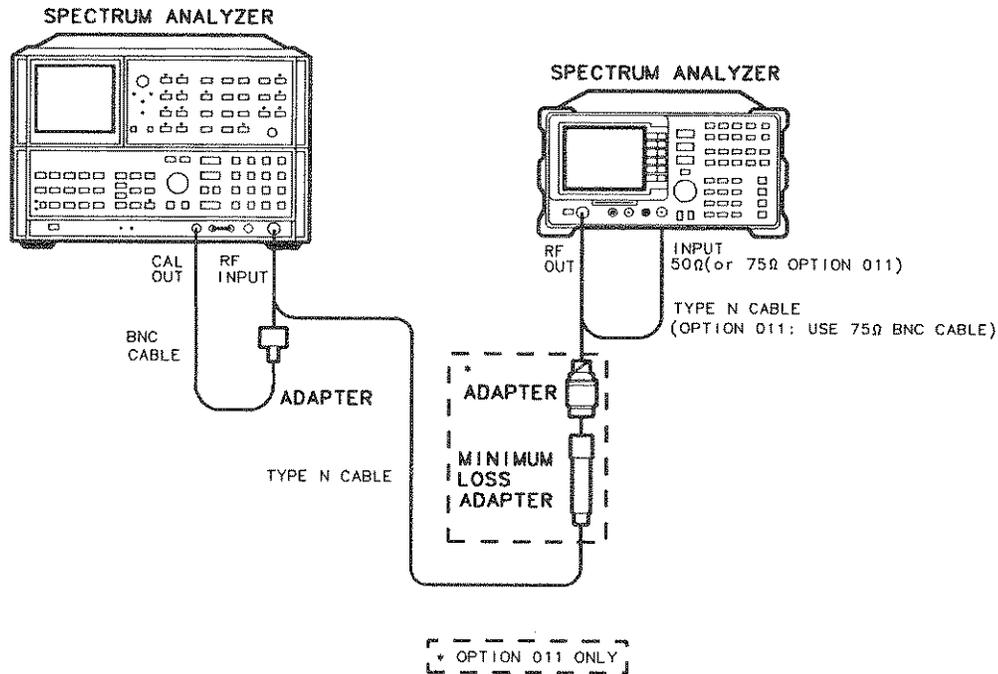

Figure 3-29. Harmonic Spurious Outputs Test Setup
1. Connect the Type N cable between the RF OUT 50 Ω and INPUT 50 Ω connectors on the HP 8591A Spectrum Analyzer. See Figure 3-29.
7. Connect the Type N cable from the tracking generator output to the HP 8566A/B RF INPUT as shown in Figure 3-29.